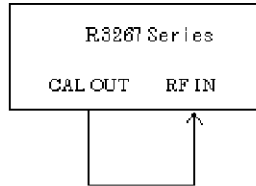

Figure 6-8 Setup of Simplified Performance Check
1. Connect equipment as shown in Figure 6-8.